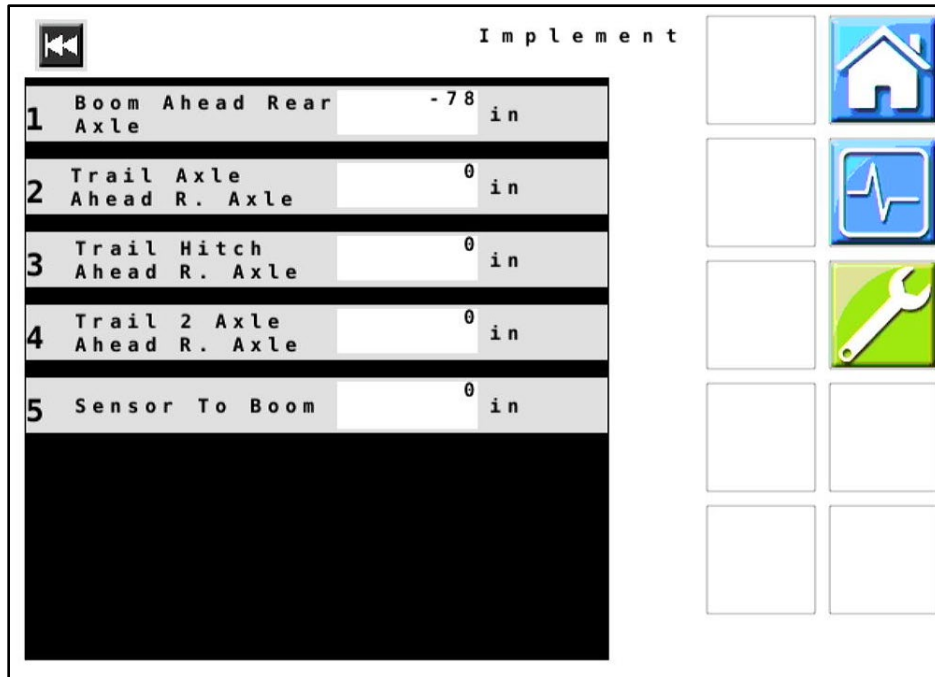

Figure 20 — Implement
35. **Figure 20:** The values in this menu are defaults. The measurement for **Boom Ahead Rear Axle** is an approximation and will be adequate in most instances. Measure the distance between the rear axle of the sprayer and application point for the best results.